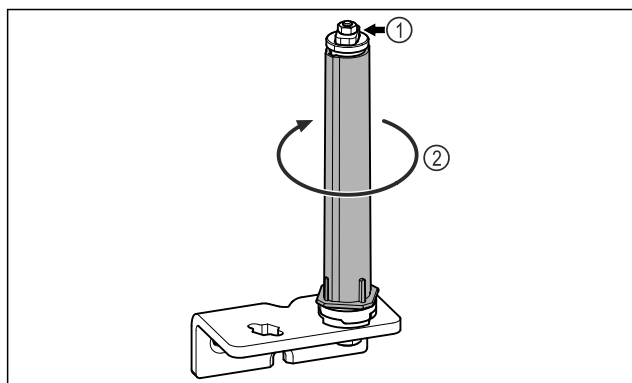

Fig. 18
- ▶ Do not disassemble the door locking system Fig. 18 (1).
- ▶ Turn the locking system Fig. 18 (2) until it clicks.